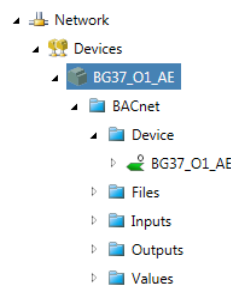

Figure 68: BACnet Objects
4. The new devices are displayed in the navigation view. You have access to all BACnet objects and their properties (see Figure 68).
5. The new device is displayed in the navigation view. If you have uploaded the device configuration or imported a configuration, you now have access to all BACnet objects of the device (see Figure 68).